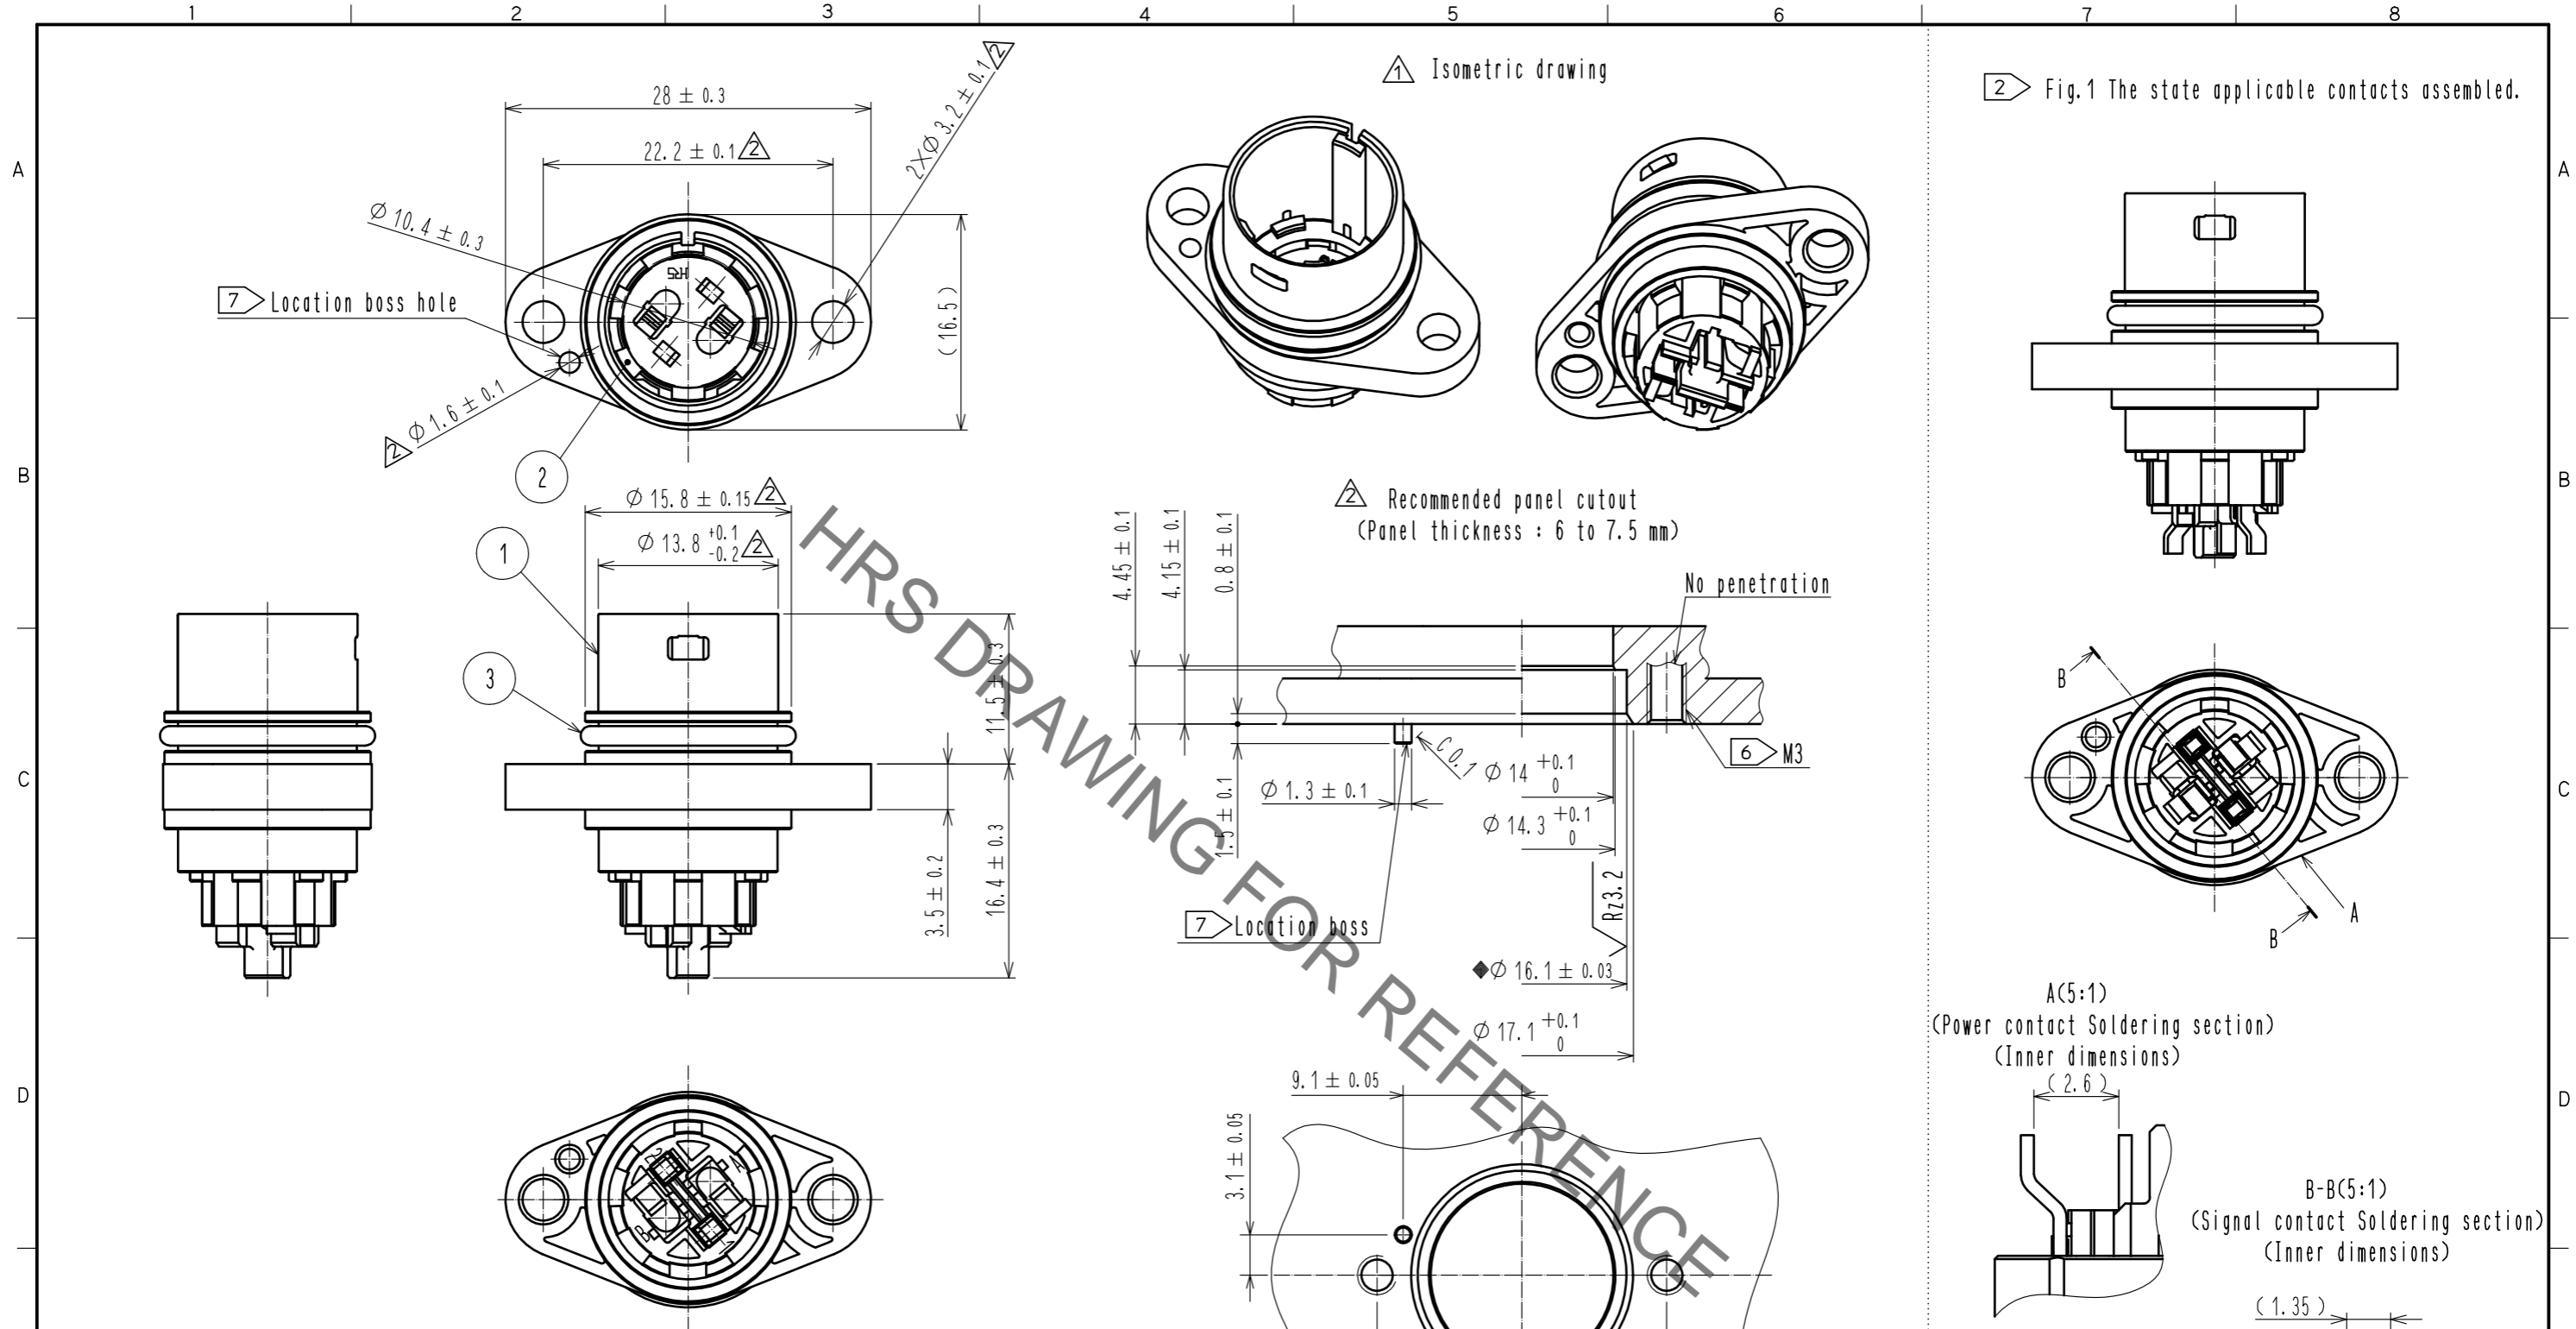

Fig.1 The state applicable contacts assembled.
- Fig.1 shows the state applicable contact assembled.
- Check Ref No. ③ is properly set at the groove of Ref No. ① while mounting the connector, make sure that Ref NO. ③ is not caught.